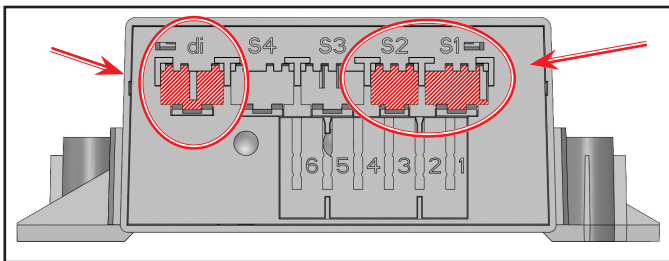

Fig. 5. Danfoss ERC remote display (n/a) and probe connections.
12. Connect the probes to the replacement temperature control. See fig. 5.